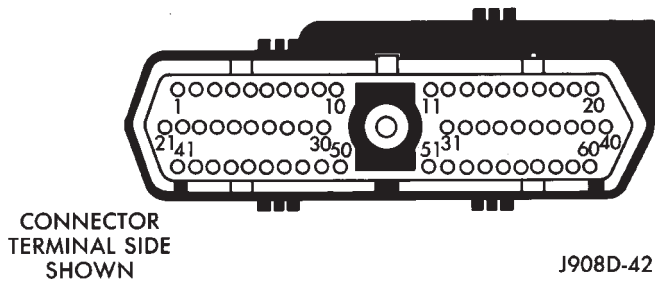

Fig. 15 PCM 60-Way Connector
(2) Connect a set of small jumper wires (18 gauge or smaller) between the disconnected harness terminals and the ignition coil terminals. To determine polarity at connector and coil, refer to the Wiring Diagrams section.
(3) Attach one lead of a voltmeter to the positive (12 volt) jumper wire. Attach the negative side of voltmeter to a good ground. Determine that sufficient battery voltage (12.4 volts) is present for the starting and ignition systems.
(4) Crank the engine for 5 seconds while monitoring the voltage at the coil positive terminal:
- If voltage remains at or near battery voltage during the entire 5 seconds, turn the key off. Remove the 60-way connector (Fig. 15) from the PCM. Check 60-way connector for any spread terminals.